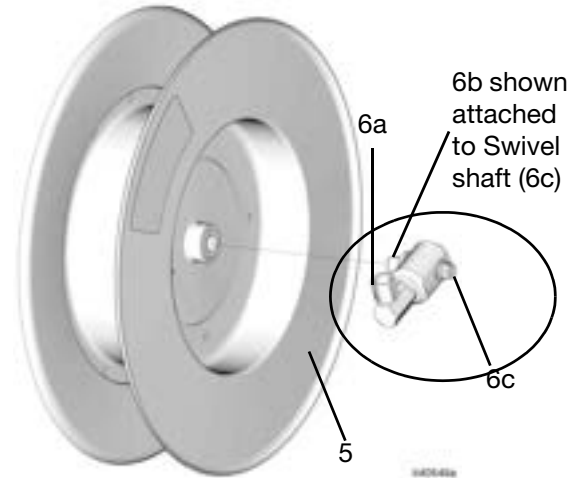

FIG. 19
5. Completely remove the hose from the swivel assembly (6 - contains 6a, 6b, and 6c) and set it aside for re-installation on the new spool (FIG. 19).
6. Loosen and unscrew the swivel shaft (6c) to remove the swivel assembly (6) from the spool (5) (FIG. 19)